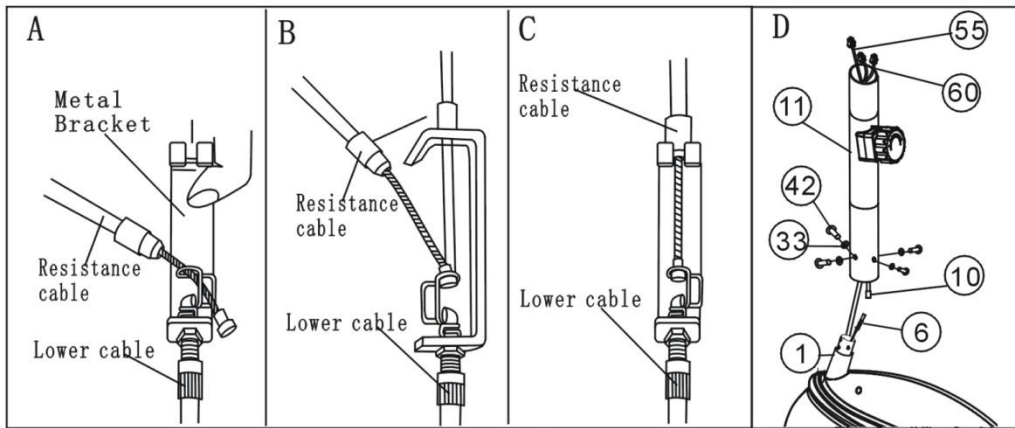

Figure 3
- Pull out the Sensor wire (55) and hand pulse wire 3 (60) through Front upright tube (11).
- Connect the tension control (10) with Tension control wire (6); [Noted: First screw the tension control to the end of "-" side, (Under this circumstance the resistance cable stretch longest.) Put the cable end of the resistance cable into the spring hook of Tension Control Wire as shown on drawing **A** of figure 3. Pull the Tension Control wire (6) up and force it into the gap of metal bracket of Tension Control Wire (6) as shown on drawing **B** of figure 3. Connect the resistance with the Tension Control Wire (6) completed as shown on drawing **C** of figure 3. If the resistance cable can not fit in the metal bracket, please adjust the nut below the metal bracket.] (See Figure 3 A-C)
- Insert the Front upright tube (11) into the tube of Mainframe (1) and secure it with four M8 \times 20 Bolts (42) and $\Phi 8$ Arc washers (33) as shown on drawing **D** of figure 3.